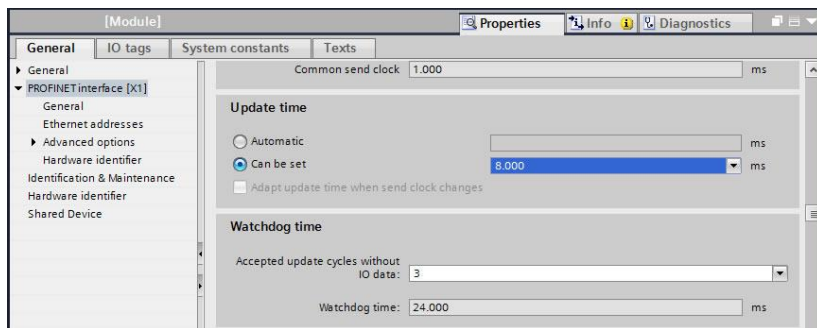

Figure 72: Set I/O Cycle Update Time
3. Set the I/O cycle **Update time** and **Watchdog time** as shown in Figure 72.